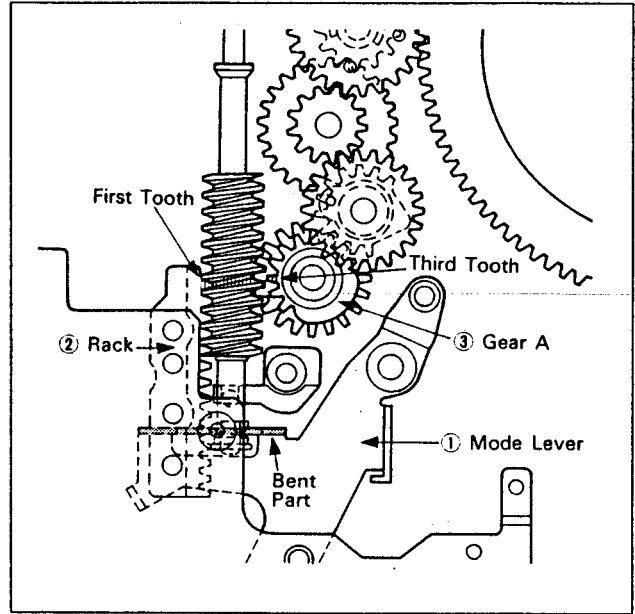
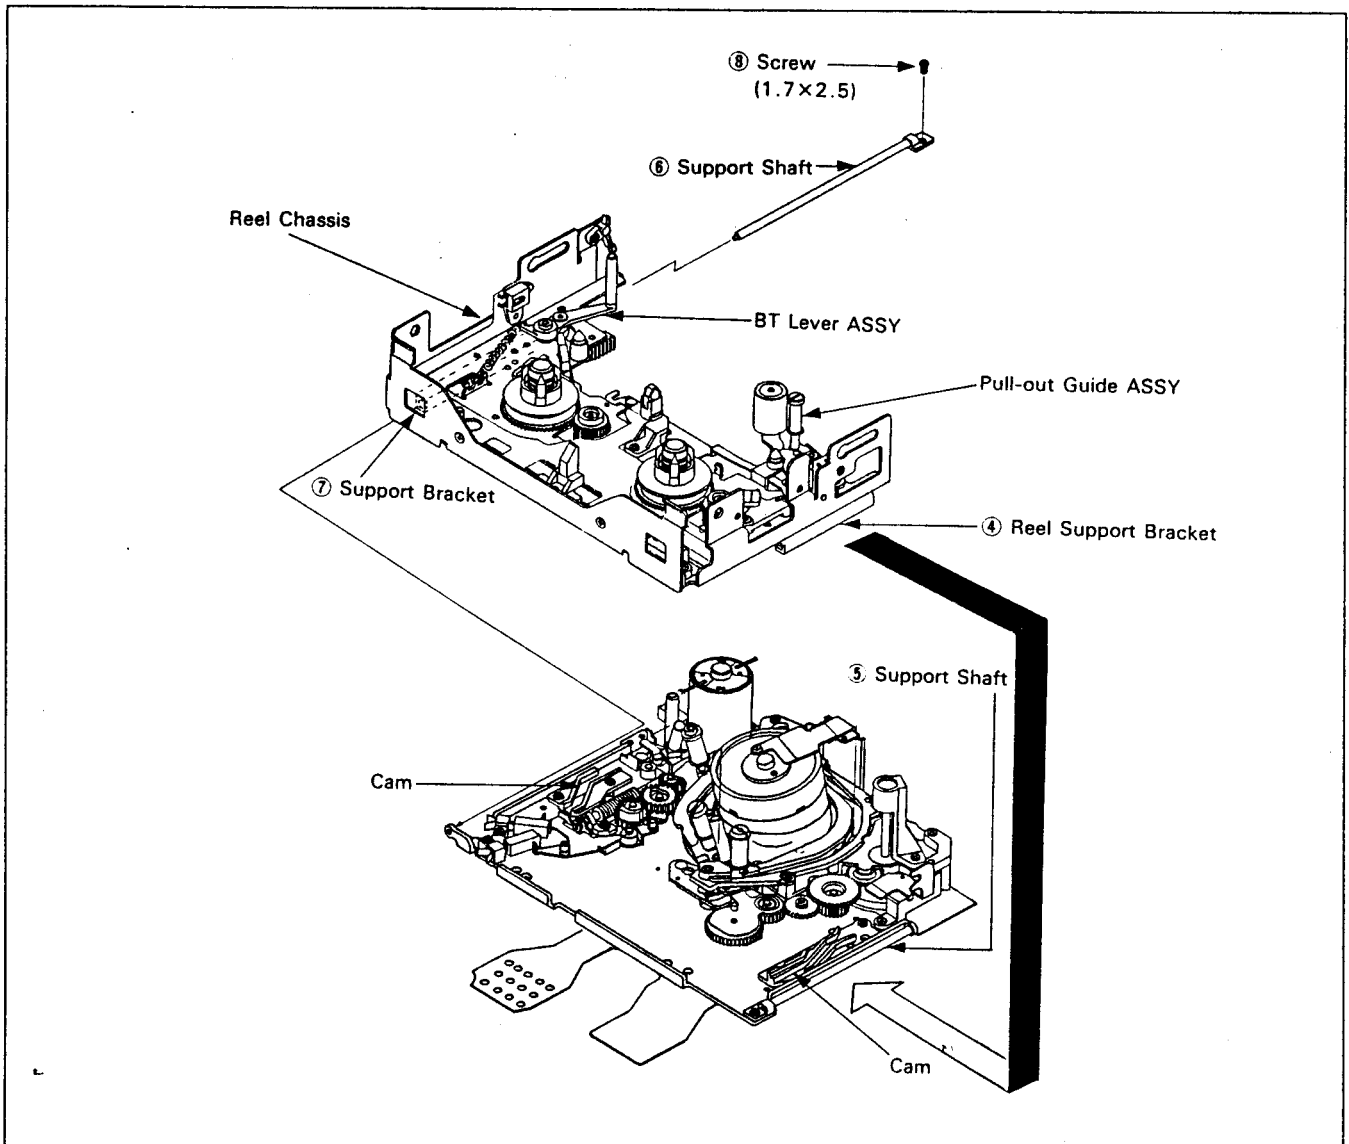

Fig. 2-14.
Fig. 2-15.
2-6-6. Phase matching during installation of reel chassis on main chassis (See Figs. 2-14 and 2-15.)
- 2) Position the mode lever ① so that its "bent" part shown in Fig. 2-14 is parallel with a line from T reel shaft to S reel shaft.
- 3) Mesh the first tooth of the rack ② of the reel chassis with the same groove of worm gear with which the third tooth of gear A ③ (lower) engages.
- 4) While meshing reel support bracket ④ with support shaft ⑤, engage cam followers of BT lever and TG9 lever with the cam of main chassis. (See Fig. 2-15.)
- 5) Insert support shaft ⑥ into reel chassis support bracket ⑦ and secure them with screw ⑧.